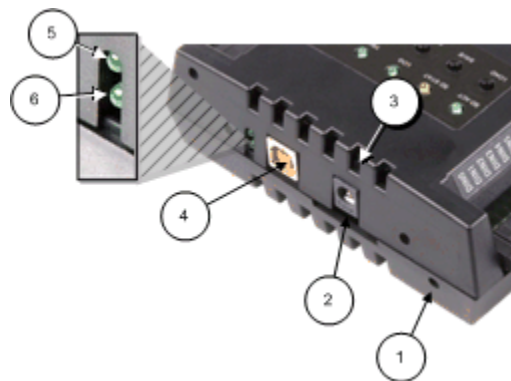

Figure 3. LGR-5327 connectors, SD card slot, LEDs, and reset button
- To power the LGR-5327 from an external power source, using the power connector, connect the 9 VDC, 1 A external power supply to the external power connector (see Figure 3 on page 11), and plug the adapter into an electrical outlet.
To connect the LGR-5327 to your system, turn the computer on, and connect a USB cable from the LGR-5327's USB connector (see Figure 3 on page 11) to either a USB port on the computer or an external USB hub connected to the computer.
- ① USB and power connectors and LEDs, SD slot, and reset button.
- ② Function buttons and LEDs.
- ③ Screw terminals and LEDs
The components indicated by ① are identified in Figure 3 and explained below.